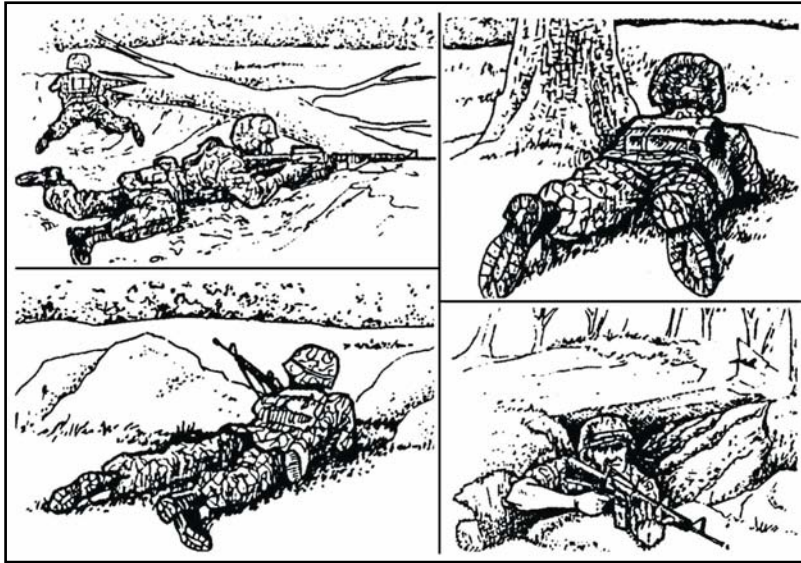

Figure 071-326-0513-1. Temporary fighting positions.
1. Choose a position that takes advantage of available cover and concealment (figure 071-326-0513-1).